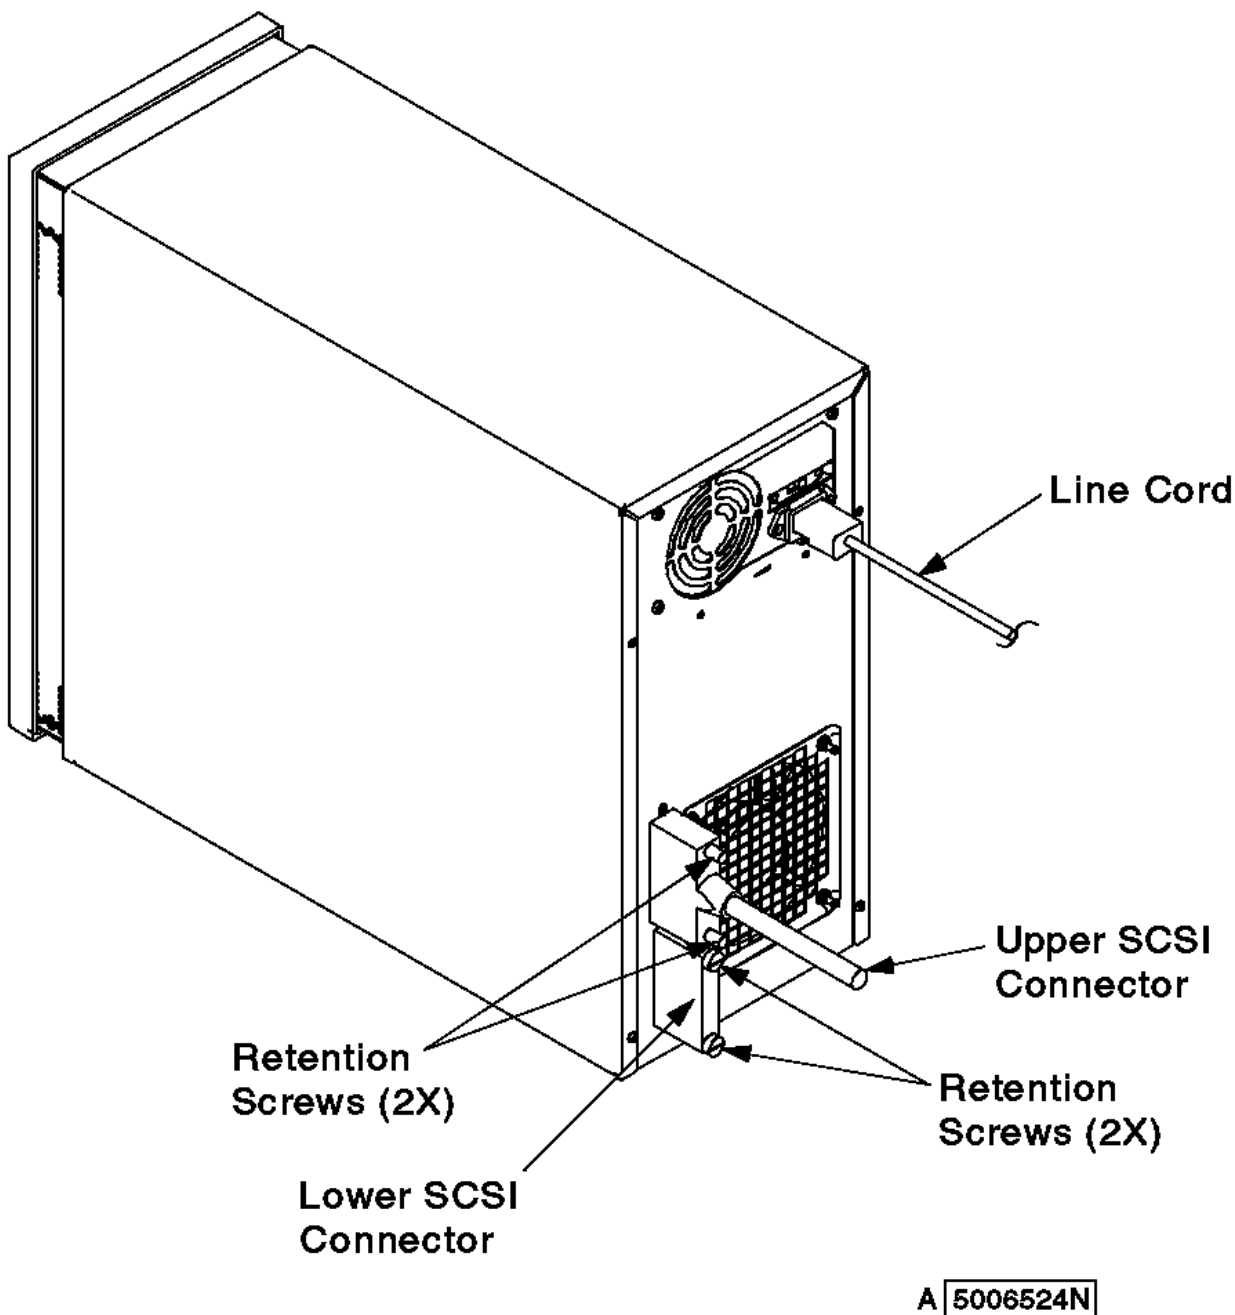

Figure 3-14. Line Cord Connection
2. Connect the line cord to the back of the 7131 Storage Tower (Figure 3-14).